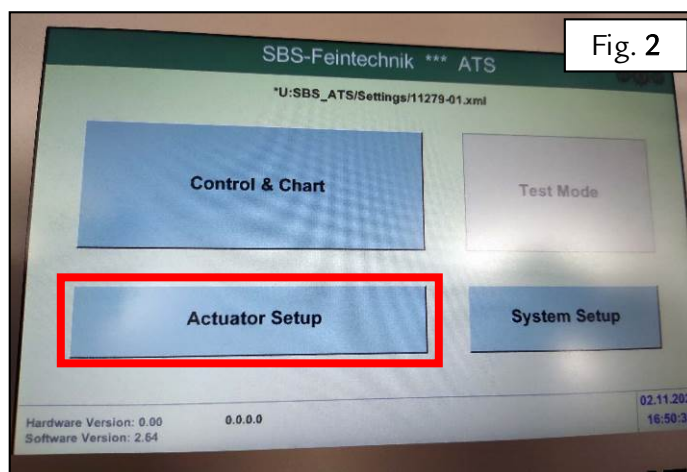

Fig. 2
- Press the **Actuator Setup** button – Fig.2.